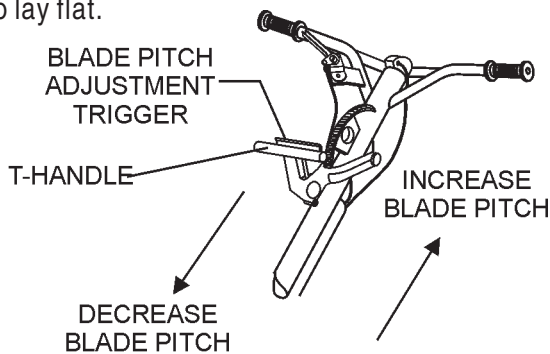

Figure 27. Quick Pitch™ T-Handle
1. To pitch the blades upwards using the "**Quick Pitch™**" **T-handle**, (Figure 27) simply squeeze the trigger lock and pull the **T-handle** towards the operator. Pushing the **T-handle** towards the engine will cause the blades to lay flat.